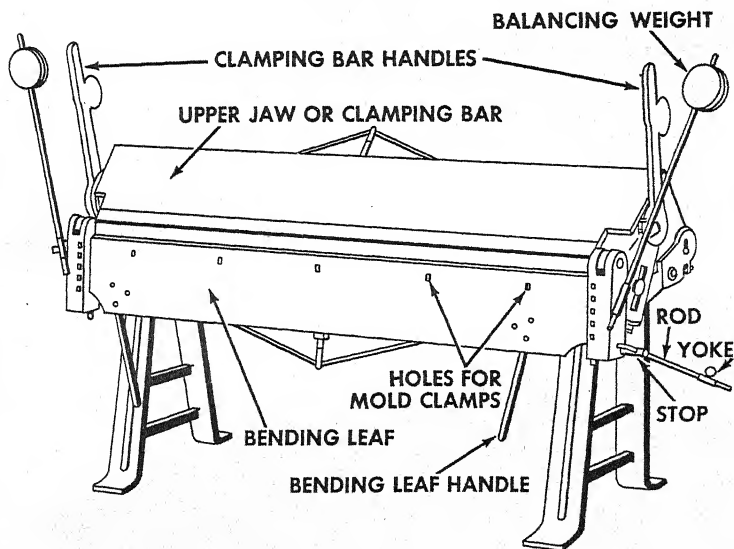

Figure 282. — Standard cornice brakes.
2. Slide the yoke (see figure 282) up the rod until it touches the stop through which the rod passes. Tighten the setscrew.